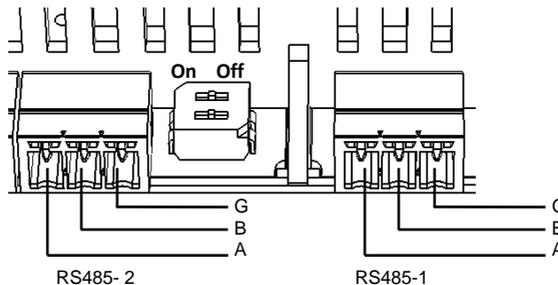

Figure 9: RS485 Connectors and Termination Switches
- 2 Designate a single RS485 port on the SolarEdge gateway as the connection point between the RS485 bus and the SolarEdge monitoring portal (see Figure 9). This port will serve as the master for this installation. Connect the 3-pin terminal block to the designated port on the gateway.